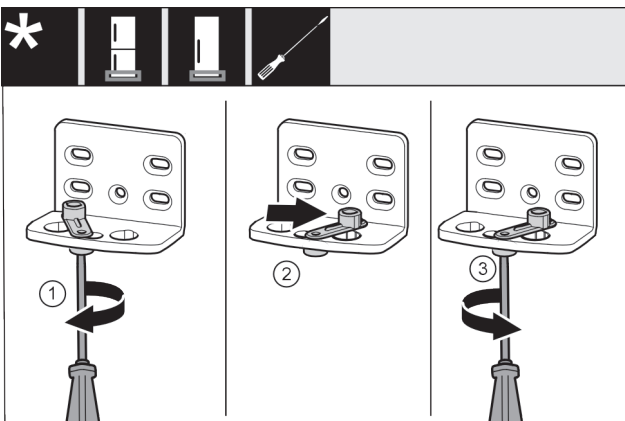

Fig. 18
- Use screwdriver to loosen the screw Fig. 18 (1).
- Lift the door closing aid Fig. 18 (2) and turn 90° clockwise in the hole.
- Tighten screw Fig. 18 (3) with screwdriver.